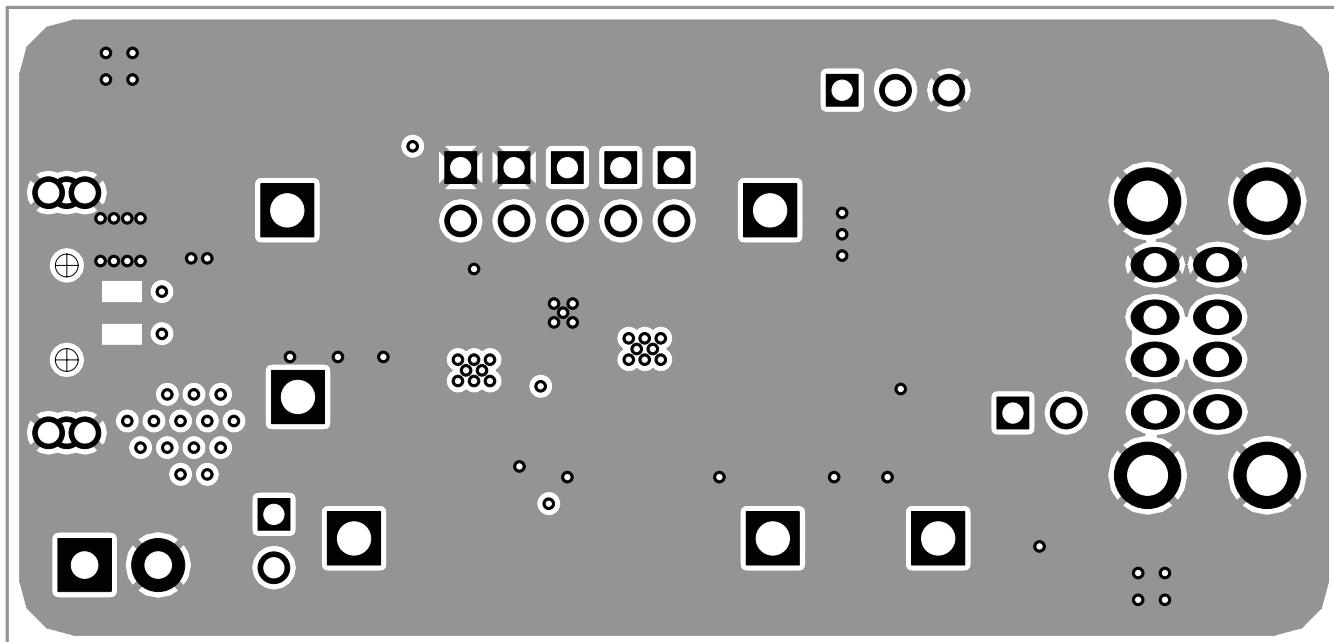
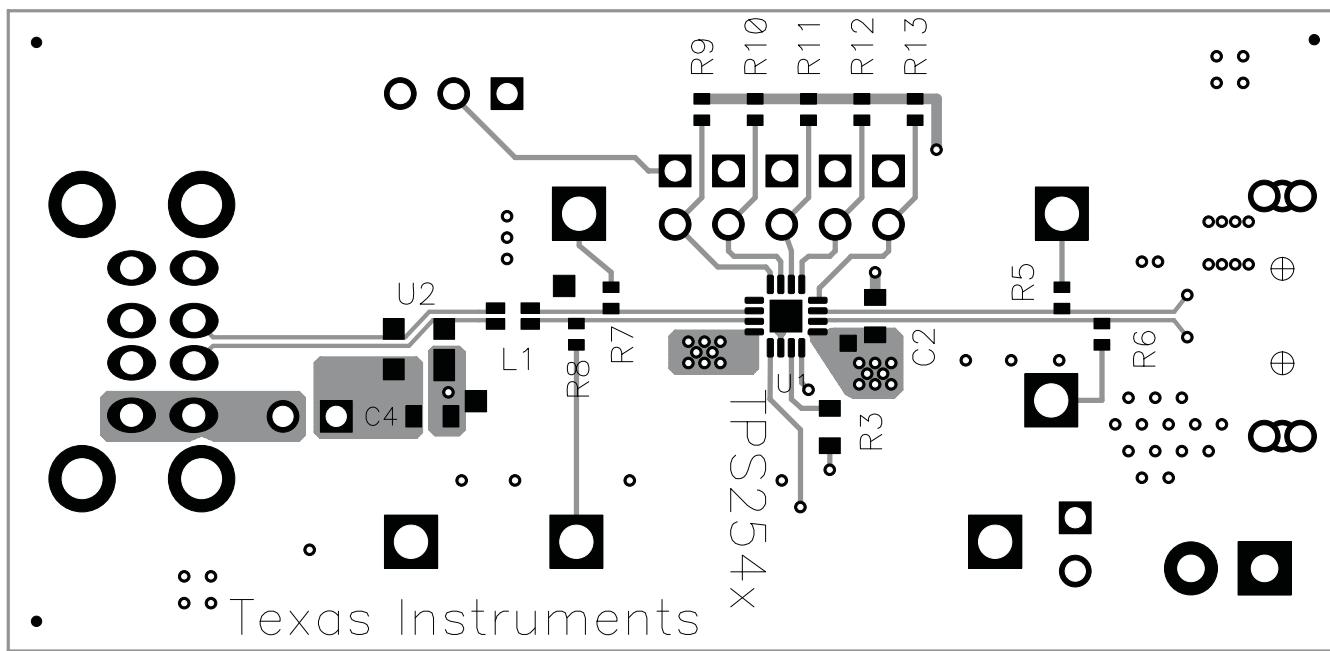

Figure 5. Layer Three Routing
Figure 6. Bottom Side Placement and Routing
- DP-OUT/DM-OUT, DP-IN/DM-IN traces: Route these traces as controlled impedance differential pairs per the USB-2.0 specification. Minimize the use of vias in the high speed data lines. Figure 6 provides a good signal routing example for the high speed data traces. In this example, the data pairs are routed as edge-coupled microstrips with nominal differential impedance of 90 ohms. The reference plane is tied to GND and is shown in Figure 5. Ensure that the reference plane is void of cuts or splits above the differential pairs to prevent impedance discontinuities.